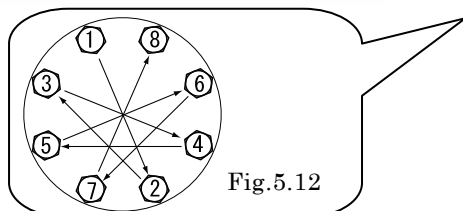

Fig.5.12
- Tighten the bolts gradually in a diagonal sequence with even torque. [Fig.5.12].